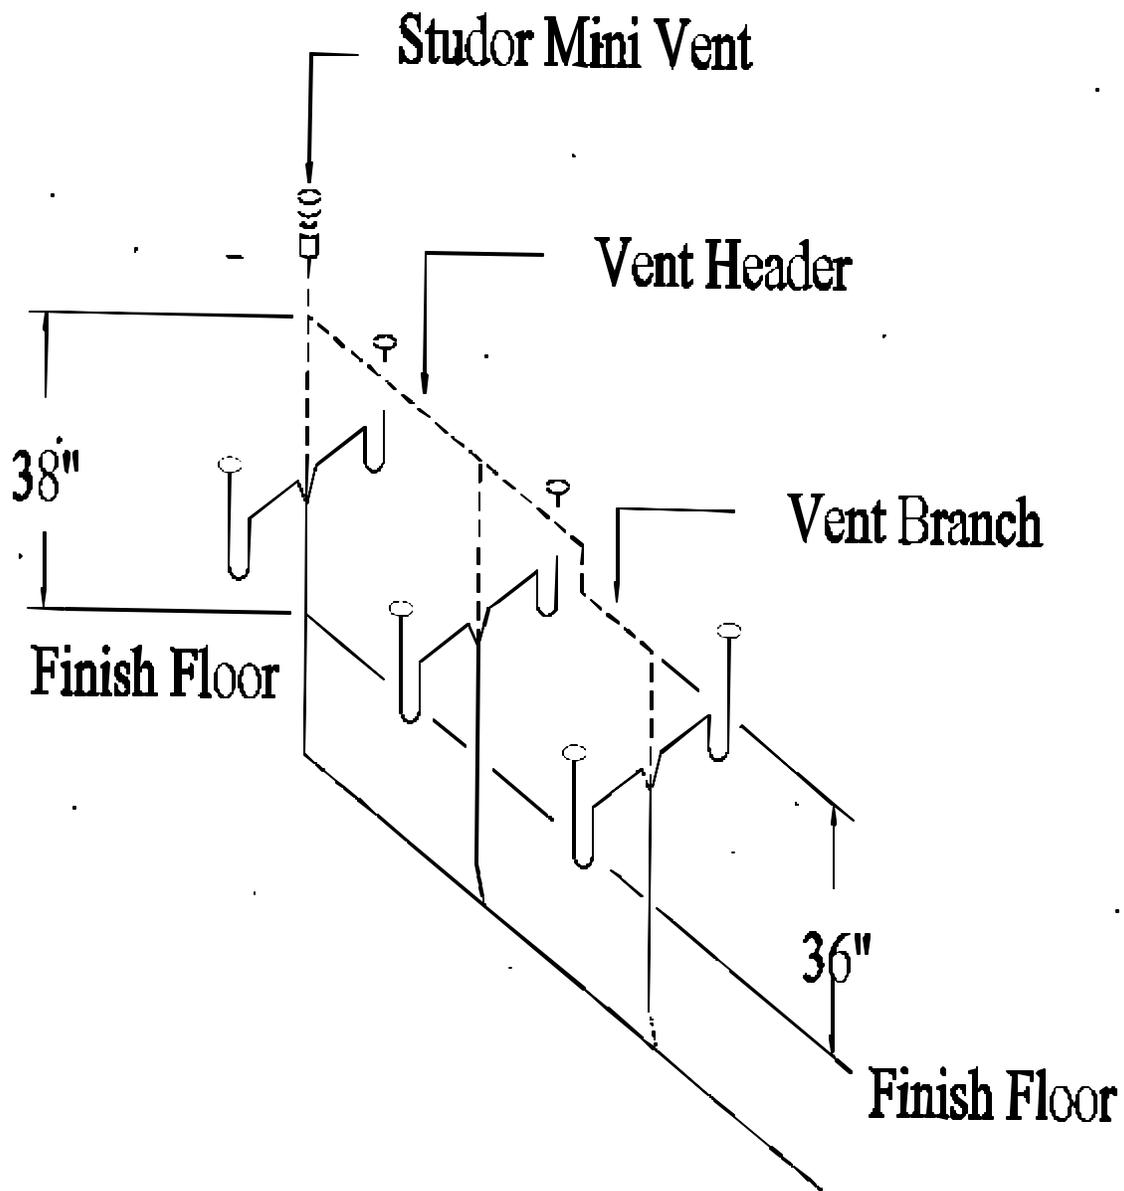

Figure 3, Offsets and branch connection to vent headers.
7. Horizontal offsets less than 36 inches above the floor are permitted except where the vent connects to another vent pipe, Figure 3, page 14.